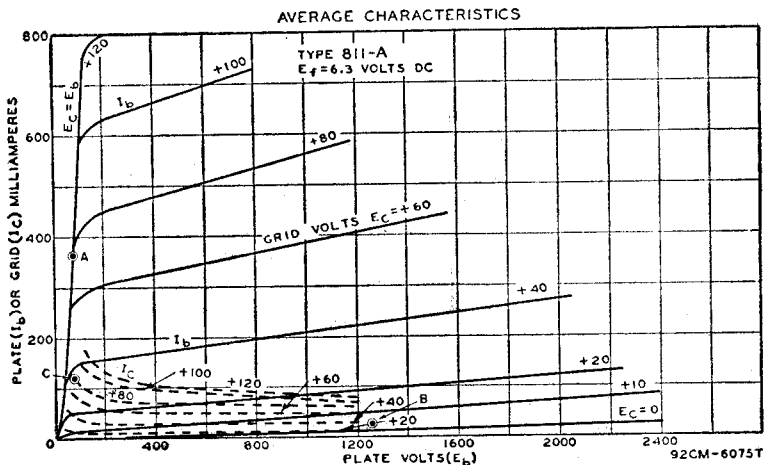

Fig. 48
Calculate operating values for the RCA-811A for linear rf power amplifier service under ICAS conditions. Refer to Fig. 48 for curve values.
- (1) Select  $E_b = 1250$  volts.
- (2) Calculate:  $I_{b0} = 0.9 P_{ine}/E_b = 0.9 \times 165/1250 = 0.12$  ampere.
- (3) Calculate:  $I_{bmax} = 3 I_{b0} = 3 \times 0.12 = 0.36$  ampere.
- (4) Calculate:  $I_b = I_{b0}/1.4 = 0.12/1.4 = 0.09$  ampere.
- (5) On Fig. 48 locate  $I_{bmax} = 0.36$  ampere at Point A. Read  $E_{cmax} = 80$  volts;  $E_{bmin} = 80$  volts.
- (6) Calculate  $I_{b0} = I_{b0}/5 = 0.12/5 = 0.024$  ampere.
- (7)  $P_{ine} = E_b I_{b0} = 1250 \times 0.12 = 150$  watts.
- (8) Calculate:  $PEP = (I_{bmax}/4)(E_b - E_{bmin}) = (0.36/4)(1250 - 80) = 0.09(1170) = 105$  watts.
- (9)  $P_p = 0.7 P_{ine} - 0.5 PEP = (0.7) 150 - (0.5) 105 = 52.5$  watts.
- (10) Record:  $E_g = E_{cmax} = 80$  volts.
- (11) On Fig. 48 locate  $I_{cmax} = 0.12$  ampere at Point C.
- (12) Calculate:  $I_{ce} = I_{cmax}/3 = 0.12/3 = 0.04$  ampere.
- (13) Calculate:  $I_c = I_{ce}/1.4 = 0.04/1.4 = 0.028$  ampere.
- (14) Calculate:  $P_d = E_g (I_{cmax}/4) = 80(0.12/4) = 2.4$  watts.